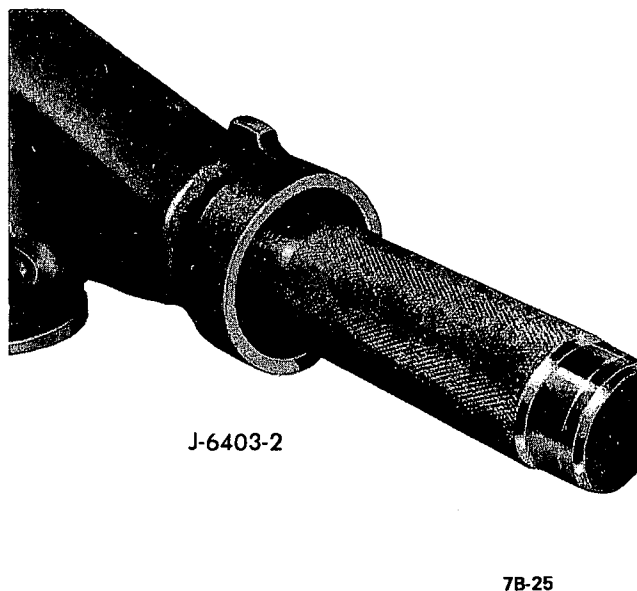

Figure 7B-25 - Installing Rear Bearing Retainer Bushing
2. Using J-2619 Slide Hammer and J-4830-02 Puller, remove rear bearing retainer bushing. See Figure 7B-24.